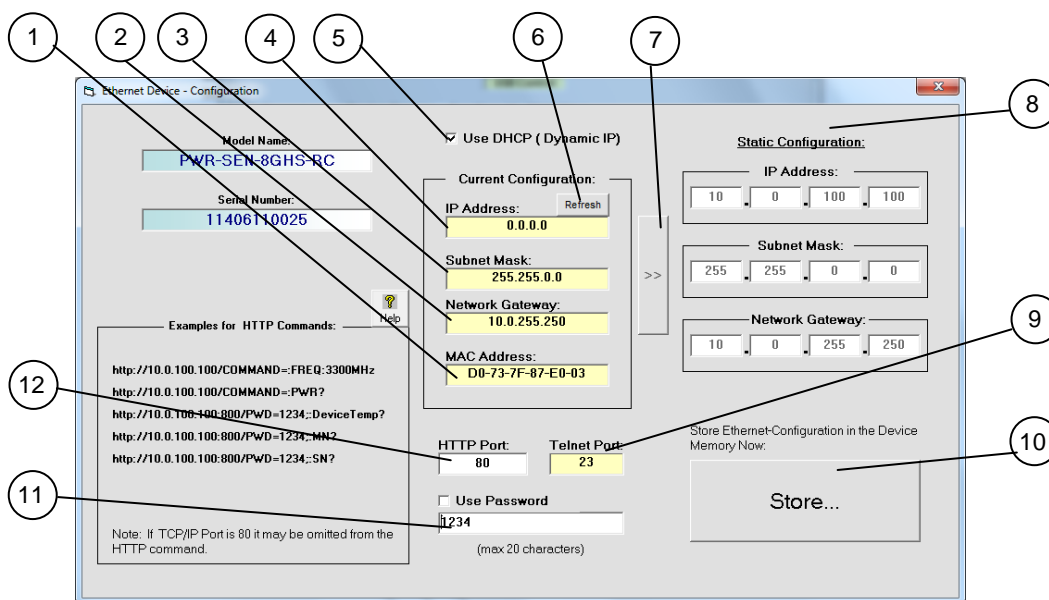

Figure 3.1.9: Ethernet Config. screen (showing factory default state)
3.1.9 **The Ethernet Configuration screen will** open showing the current configuration. **Figure 3.1.9** shows the factory default of the power sensor. If these settings fit your local network, you do not need to access the setup before connecting the power sensor to the network.